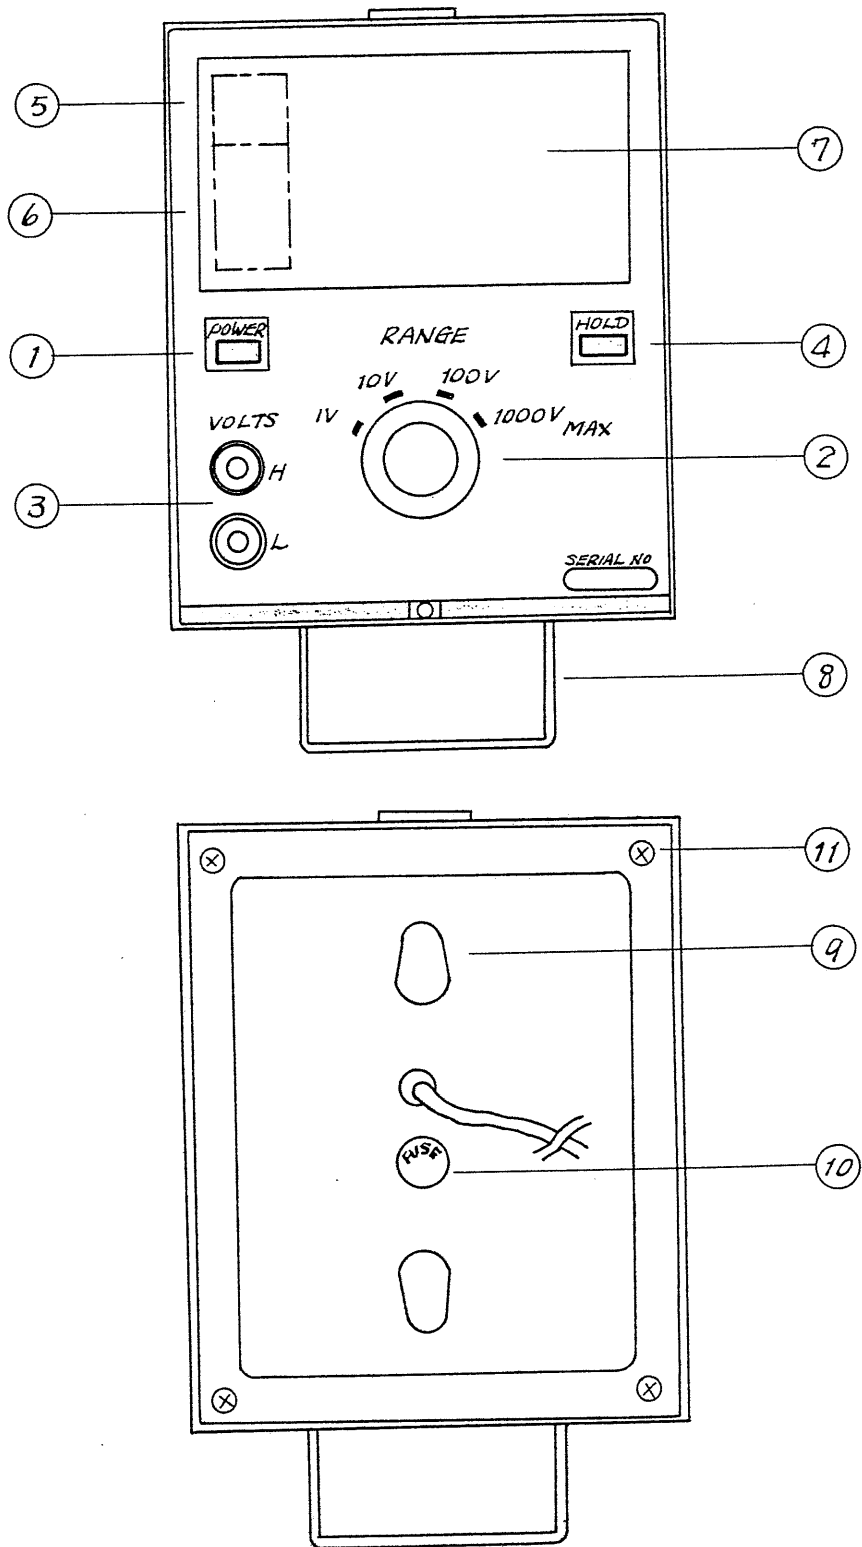

Fig. 3-1
3.1 Parts on front and rear panels (Refer to Fig. 3-1)
- ① POWER Pushbutton for turning on and off line power.